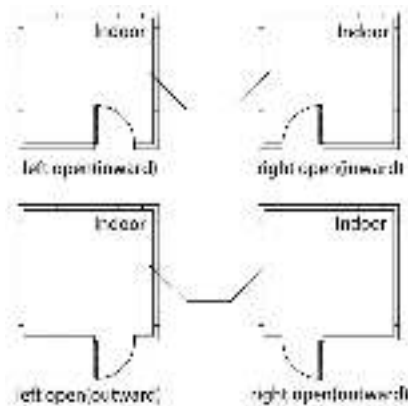

Figure 1
(1) this lock is fit for the doors which thickness is between 35~50mm, if doors' thickness is beyond the range, please inform us before you make your order.
(2) when you install this lock, lock's central point must 1 meter away from the ground.
(3) please confirm the way you want open the door and lock body's position. There are 4 ways you can open the door: Left inward, left outward, right inward, right outward, if a person stand outside the door, door's axle on this person's left side means this door is left open, on right side means right open, if this person need open the door by pushing it, then it is inward door, need open the door by pulling, then it is outward door. Show as Figure 1